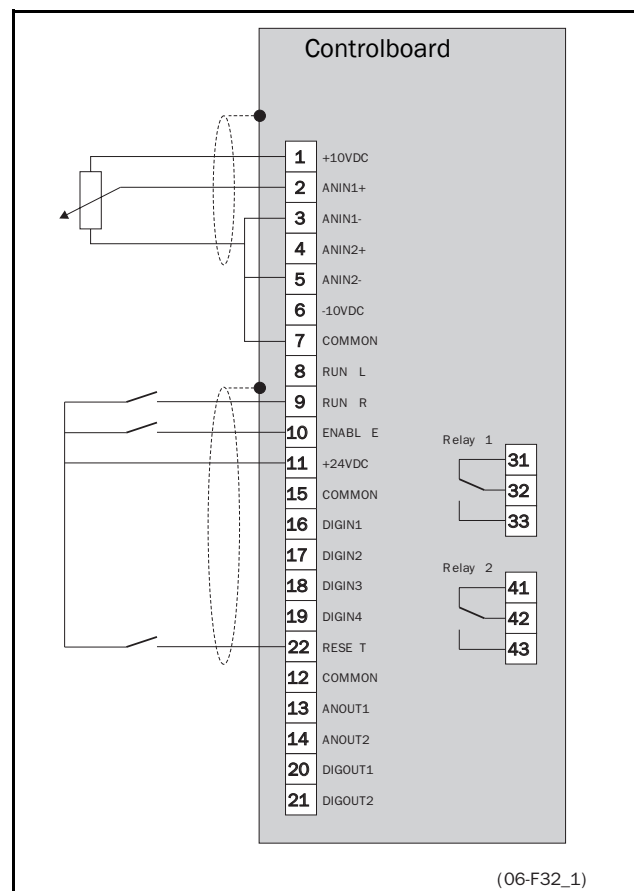

Fig. 2 Minimum control wiring.
- To run the motor, there must be a reference value and a start command present. See also Fig. 2.
Fig. 2 shows the minimum control wiring needed to get started. The input AnIn1 is used as normal (non-differential input) with a 2 kΩ potentiometer. The Enable input must be active together with RunR or RunL. The potentiometer will work as a Speed Reference (default).